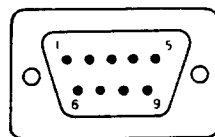

Fig 3-1 9-Pin Colour Monitor
- \* VIDEO SIGNAL CABLE: A 1.5m cable, terminated with a 9 Pin D-type connector, supplies video and sync. signals to the monitor. The cable is attached to the monitor and is not detachable. Fig 3-1 illustrates the D-type connector. Table 3-1 lists the connector signal for each mode of operation.